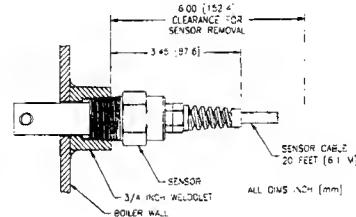

FIGURE 2-2 *Installing Sensor Into Vessel Wall Using a Weldolet*
- Install the sensor into the vessel or pipe run so that the process flow directly contacts the end of the sensor (see Figure 2-2).
1. Refer to Figure 2-2, and install a 3/4-inch NPT weldolet into the vessel wall.